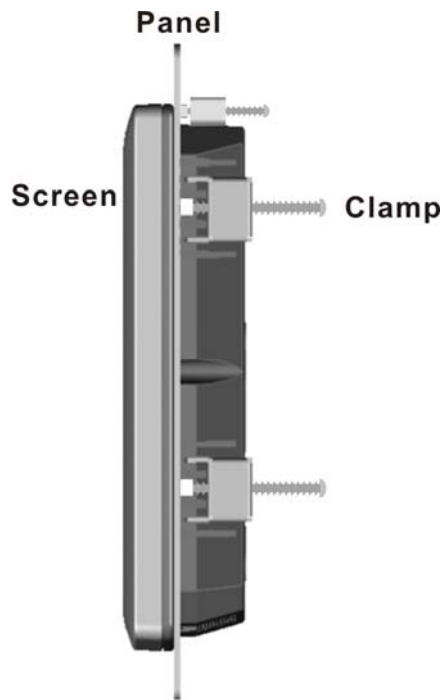

Figure 2-15: Tighten the Panel Mounting Clamp Screws
- Step 5:** Tighten the screws that pass through the panel mounting clamps until the plastic caps at the front of all the screws are firmly secured to the panel (**Figure 2-15**).